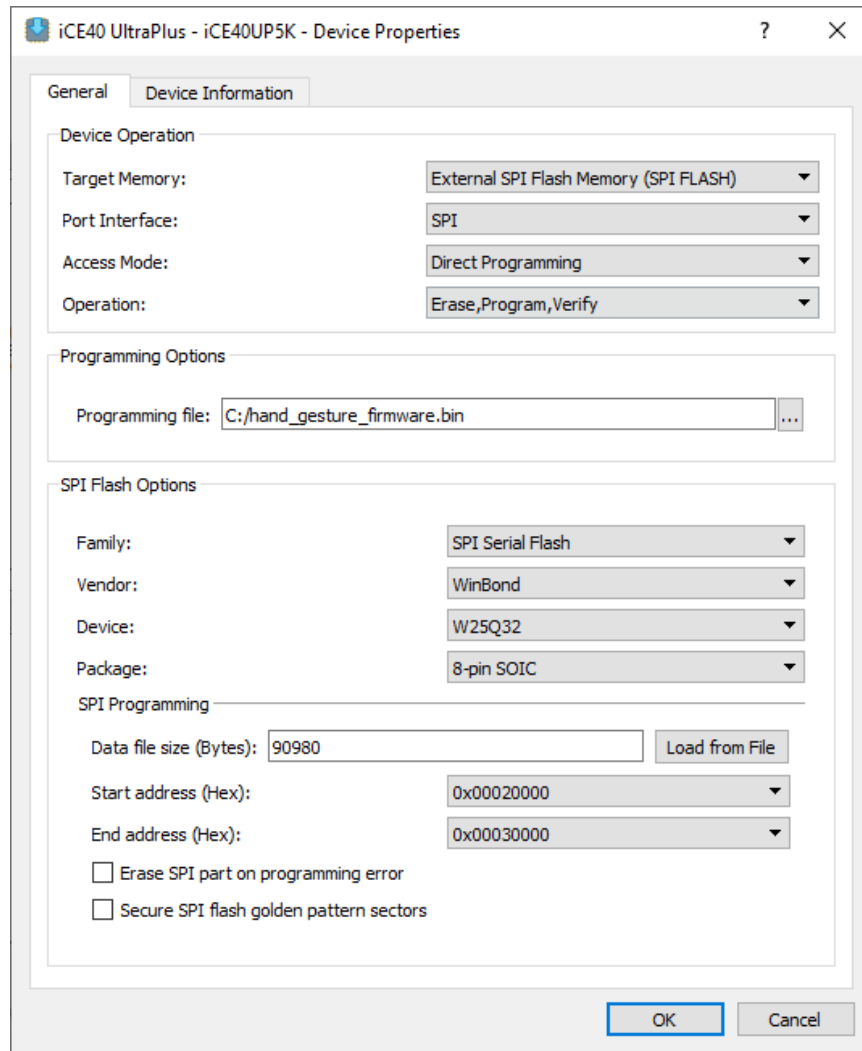

Figure 4.6. Radiant Programmer – Firmware Bin File Flashing Setting
10. To program the firmware, select the options as shown in Figure 4.6.